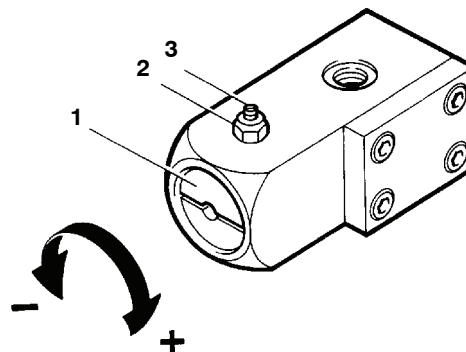

Fig. 4 Pressure maintaining valve
The pressure maintaining valve (Fig. 4) is adjusted at the factory to the required pressure and normally does not require regular maintenance or readjustment. In case of readjustment becoming necessary, loosen jam nut (2) and set screw (3). Adjust screw (1) to the required pressure using a suitable screw-driver.